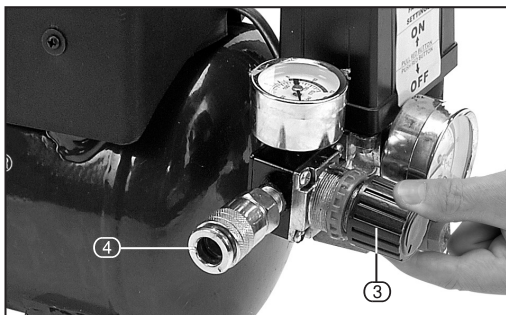

FIG. 2
6.2 INITIAL STARTUP – FIGS. 2 - 3
- Insert a euro connector into the air outlet connector (4) and open the regulator (3) fully.